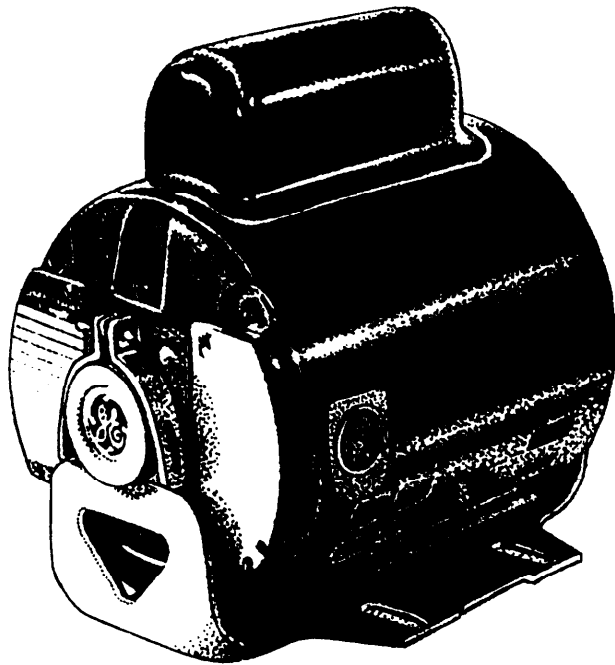

Figure 9-5.—Capacitor motor.
**CAPACITOR MOTOR.**—The capacitor motor is single-phase and has a capacitor in series with the starting winding. An external view is shown in figure 9-5 with the capacitor located on top of the motor. The capacitor produces a greater phase displacement of currents in the starting and running windings than is produced in the split-phase motor. The starting winding in the capacitor motor has many more turns of larger wire than the split-phase motor. The starting winding is connected in series with the capacitor. The starting winding current is displaced about 90 degrees from the running winding current. The axes of the two windings are also displaced by an angle of 90 degrees. Therefore, a higher starting torque is produced than that in the split-phase motor. The starting torque of the capacitor motor may be as much as 350 percent of the full-load torque.